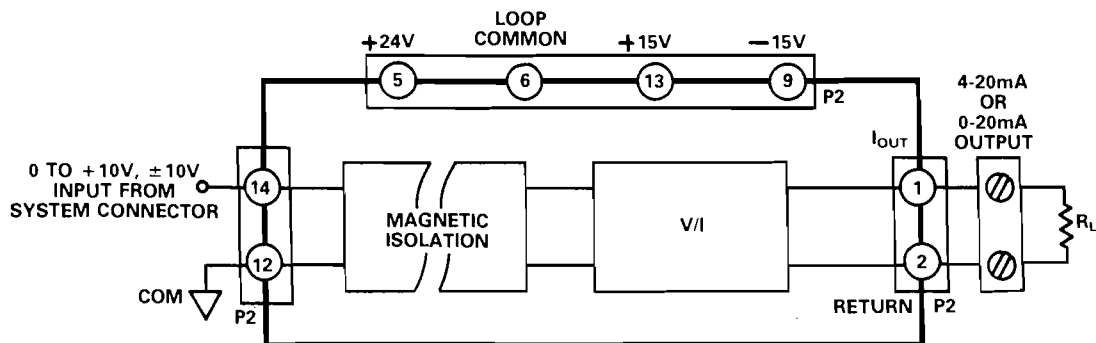

Figure 2.2.1 Model 3B39 Isolated Voltage to Current Converter Functional Block Diagram
Figure 2.2.1 shows a functional diagram for the model 3B39 isolated voltage to current converter. Each unit is plugged into a 3B Series backplane, which provides the power for each module. The input signal drives a voltage to current converter through the isolation barrier. Transformer coupling is used to achieve stable galvanic isolation. The current output can be adjusted over a  $\pm 5\%$  span range for zero and span with front panel accessible potentiometers. Output protection of up to 220V (130V for the 3B19) is provided for the current outputs.
1. Connect the 3B39 (3B19) as indicated in Figure 2.2.1 with  $R_L = 250\Omega$ .